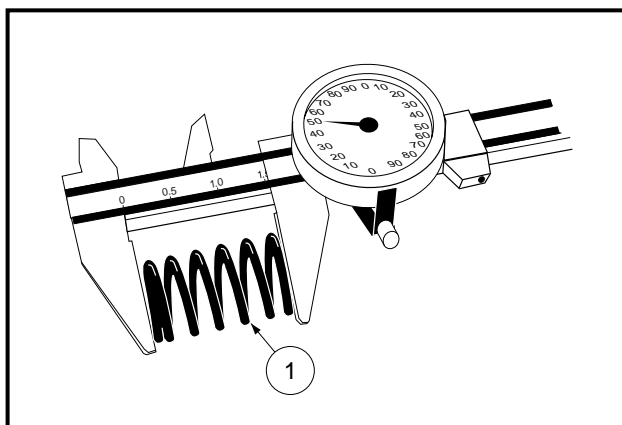

Figure 13-32 Measure Valve Spring Length
1. Inspect the valve springs (1) for pitting, cracks, corrosion and burrs. Replace the springs if necessary (**Figure 13-32, Page 13-18**).
2. Measure the free length of the spring. If the measurement is less than the service limit of 1.51 inch (38.50 mm), replace the spring (**Figure 13-32, Page 13-18**).